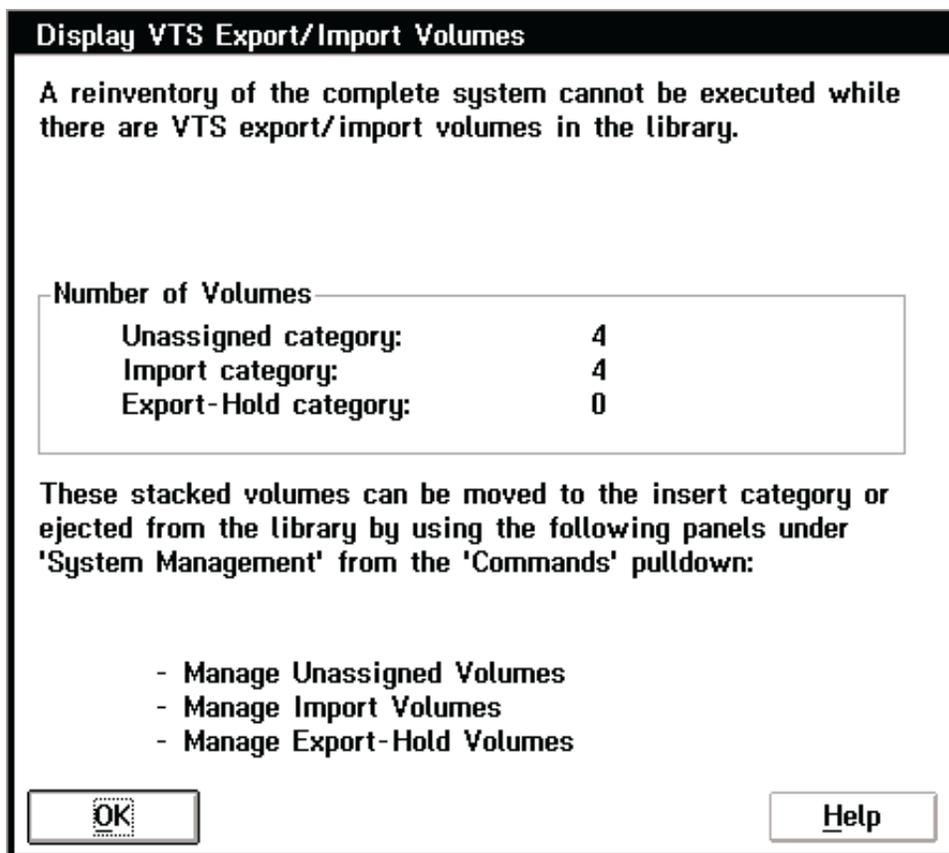

Figure 111. Display VTS Export/Import Volumes Window
2. If you select the **Re-inventory Complete System** option and there are VTS Import or Export Stacked Volumes in the Unassigned, Import, or Export-Hold categories, then the Display VTS Export/Import Volumes window (Figure 111 on page 188) opens. You cannot continue with the re-inventory until you eject the Import and Export volumes. The re-inventory is blocked to prevent the possible destruction of important exported data. You should exit this window, then select the appropriate windows under the Commands window under **System Management** in the LM Operator window and eject the indicated volumes. When you have ejected all Import and Export volumes from the library, you can then select the **Re-inventory Complete System** option and continue.